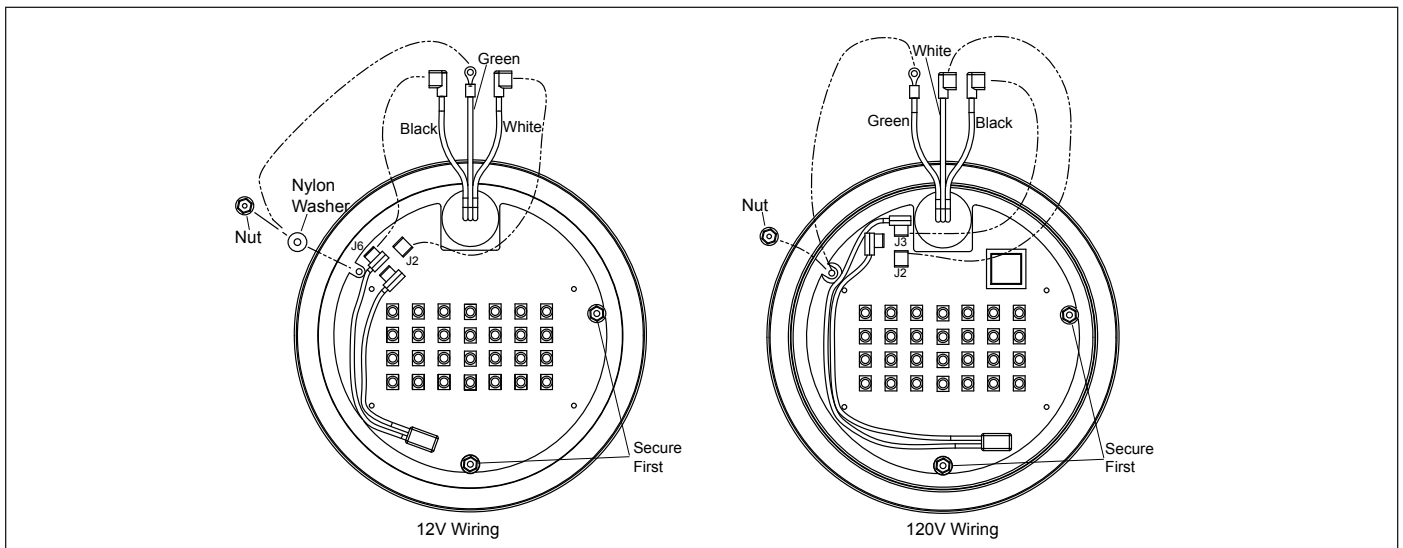

Figure 8. Large Light Engine (PCB) Replacement and Wiring
1. Remove three (3) nuts and washers.
4. Place new light engine into the fixture with the orientation shown in Figure 8.
5. Secure the new light engine (PCB) with two (2) nylon washers and two (2) nuts. Torque to 12 in-lbs.